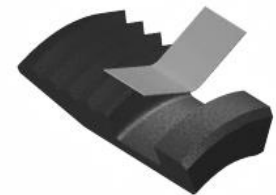

Fig. 4
**NOTE8:** Install one (1ea) spring per slip (Fig. 4).